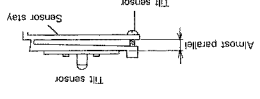

Fig. 10-6
9. Adjust the Tilt sensor tilt adjustment screw on the new Pick-up assembly so that the Tilt sensor and the sensor stay are parallel. (Fig. 10-6)